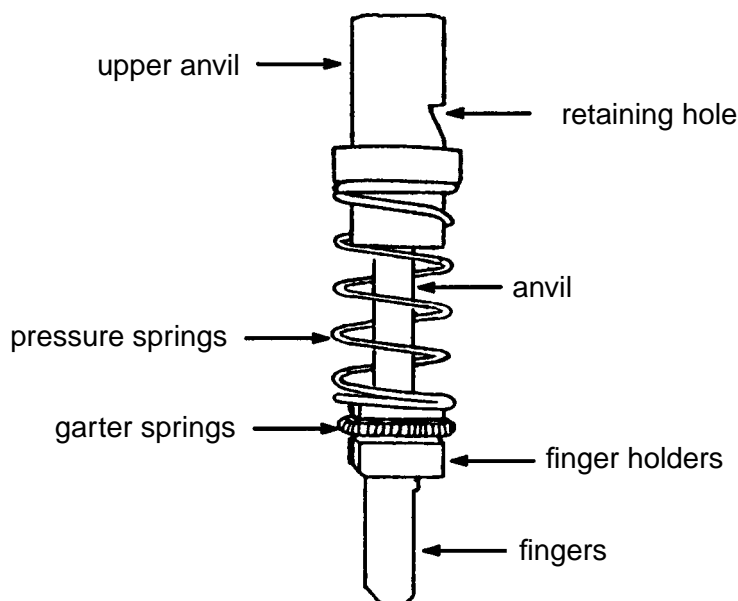

Figure 6 - Upper Anvil Assembly
5.2.3 Install the of upper anvil (see Figure 6) as follows: